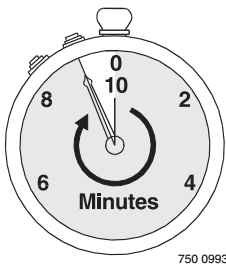

Figure 14 – Run Ten Minutes or Less
- Step 5. Start pump: water should be produced in 10 minutes or less, the time depending on depth to water (not more than 20’) and length of horizontal run (10’ of horizontal suction pipe = 1’ of vertical lift due to friction losses in the pipe) (Figure 14).